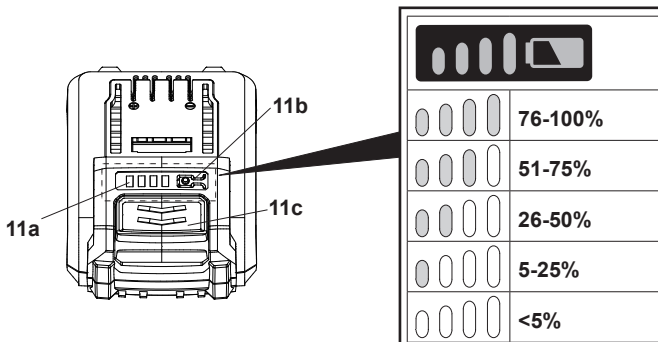

Fig. 6
The battery pack (11) is equipped with the battery capacity indicators (11a) which are used to give an indication of the battery pack's remaining capacity. Press the battery capacity button (11 b) to check battery capacity (Fig. 6).